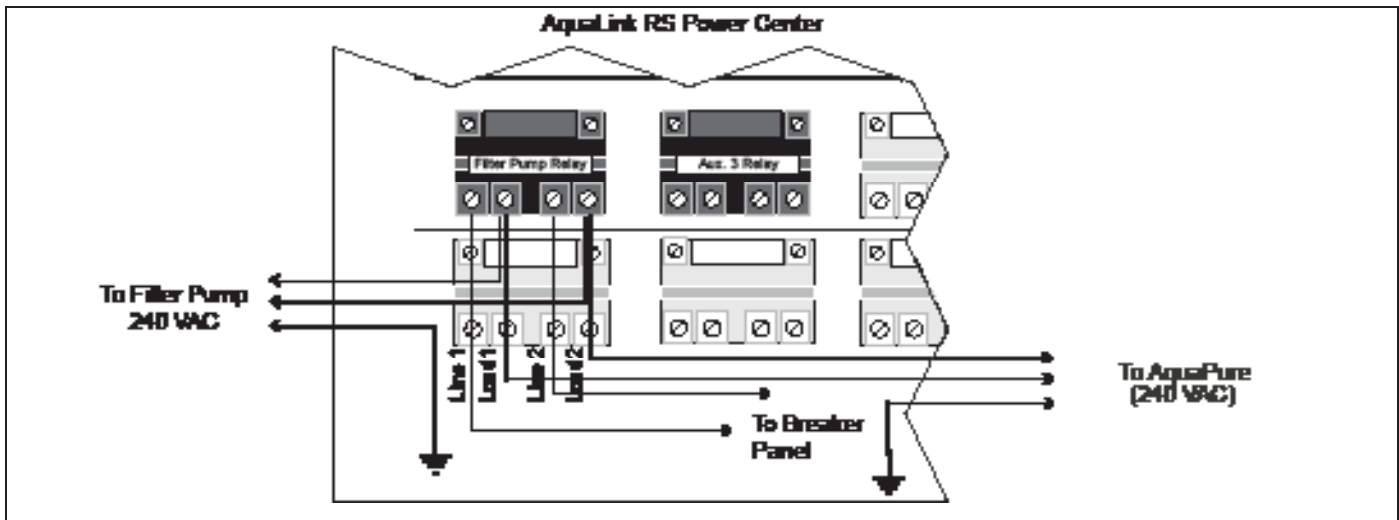

Figure 12. Power Connection between AquaPure Control Centre and AquaLink RS Power Centre
5. Cut out a 352 mm (13⁷/₈"") section of the 50 mm or 2" pipe to insert the cell. See Figure 12. Glue on unions and install cell.
In the AquaLink RS power centre enclosure, wire the AquaPure Control Centre input power *directly* to the LOAD SIDE of the filter pump relay (see Figure 12).